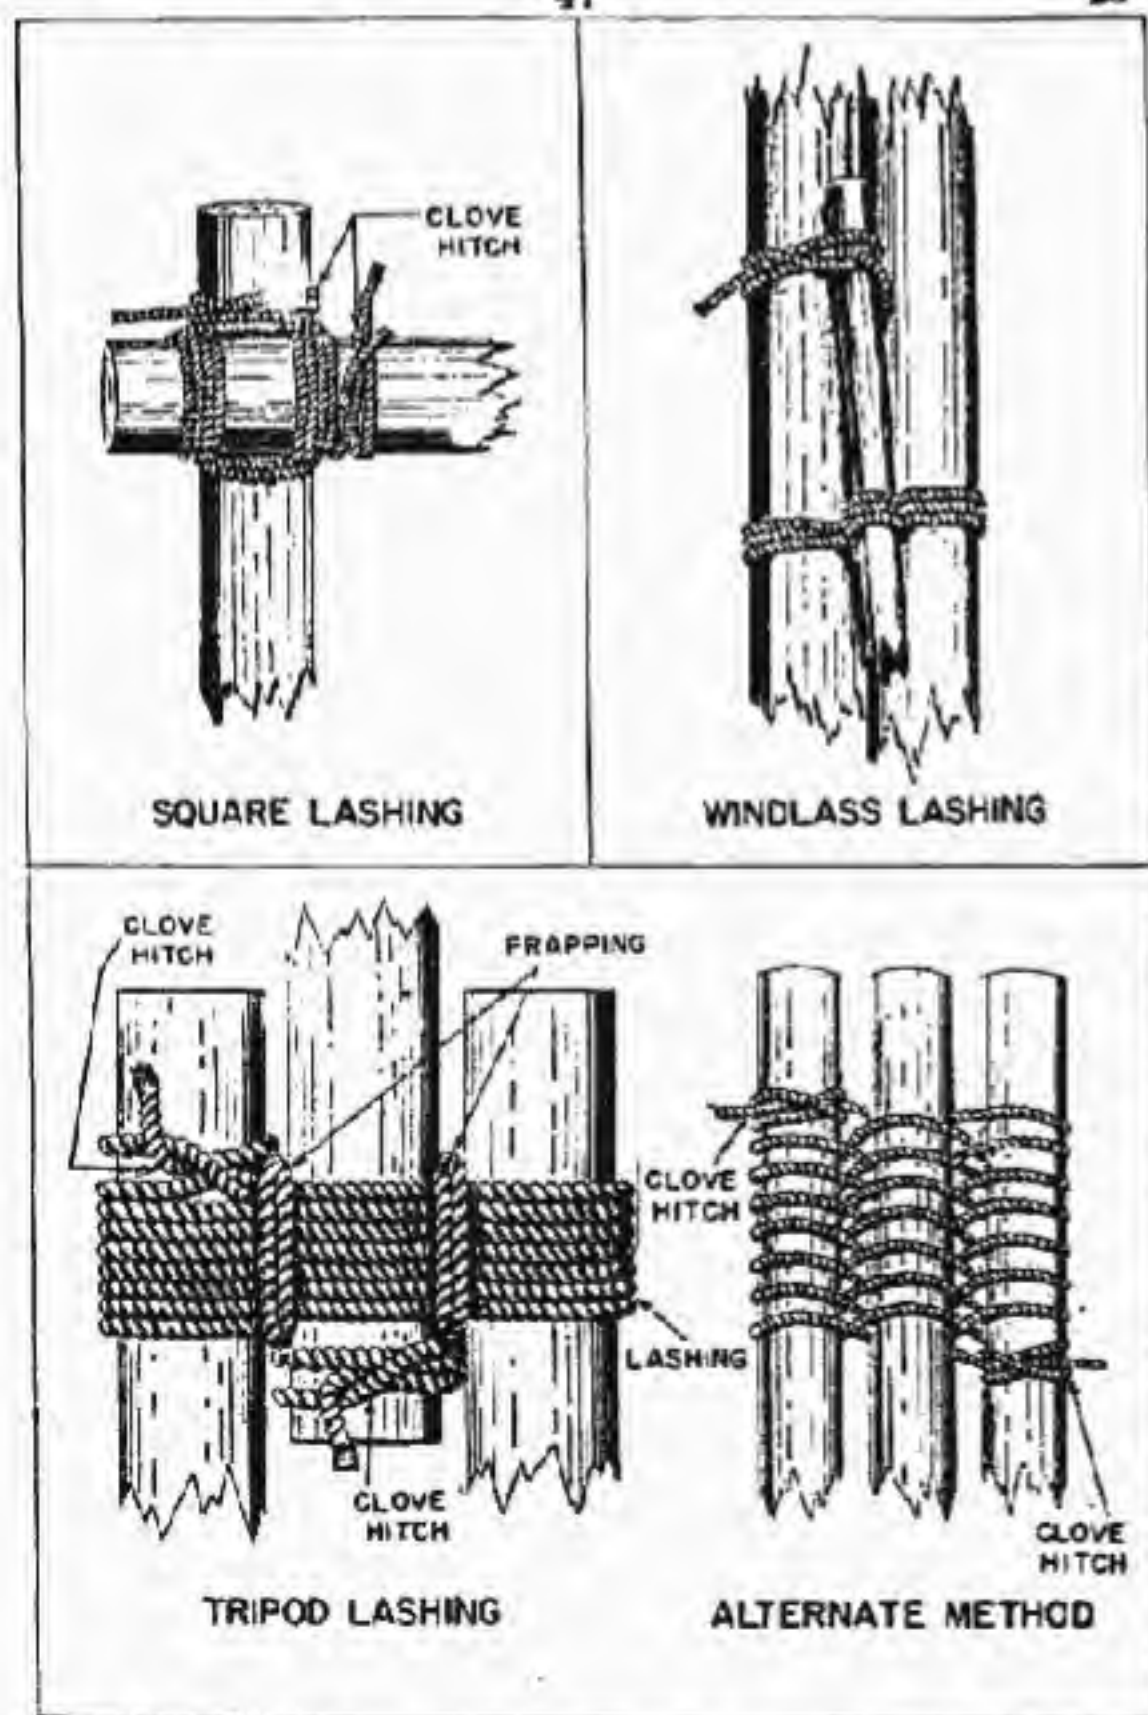

FIGURE 52.—Details of lashings and spars.
■ 28. LASHINGS AND SPARS.—a. *Square lashing* (two spars at right angles) (see fig. 52).—To lash two spars at right angles make a clove hitch around the upright a few inches above the transom. Bring the lashing under the transom, up in front of it, horizontally behind the upright, down in front of the transom, and back behind the upright at the level of the bottom of transom and above the clove hitch. Keep the following turns outside the previous ones on one spar and inside on the other, not riding over the turns already made. Make four more turns. Make two frapping turns between the spars, around the lashing, and finish the lashing off either around one of the spars or any part of the lashing through which the rope can be passed. Do not make the final clove hitch around the spar on the side toward which the stress is to come, as it may jam and be difficult to remove. While tightening, beat the lashing with a handspike or pick handle.
b. *Three spars for tripod* (see fig. 52).—(1) To lash three spars together as for a gin or tripod, mark on each spar the location of the center of the lashing. Lay two of the spars parallel to each other with an interval a little greater than the diameter. Rest their tips on a skid and lay the third spar between them with its butt in the opposite direction, so that the marks on the three spars will be in line. Make a clove hitch on one of the outer spars about 4 inches above
(2) Figure 52 also illustrates an alternate method for lashing three poles together for a tripod